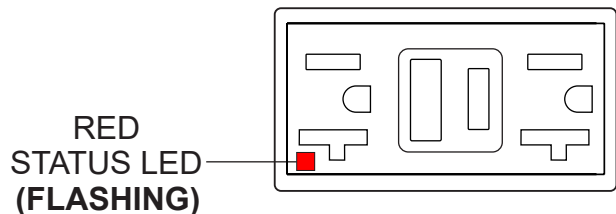

Figure 78. GFCI Receptacle (Red Flashing LED)
6. If the status LED (Figure 78) is **flashing (RED)**, **DO NOT** use the GFCI receptacle and replace it immediately.